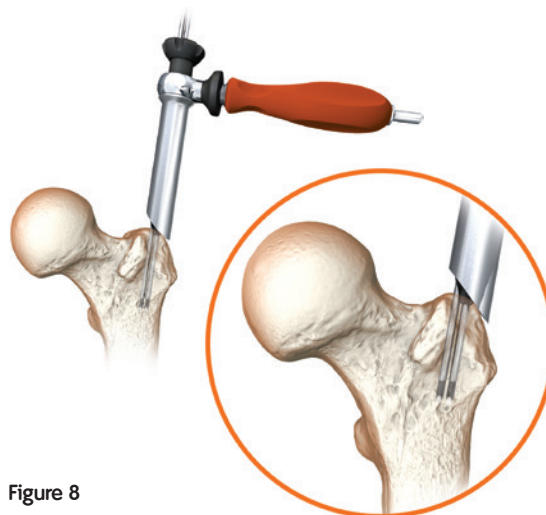

Figure 8
**Note:** If suboptimal guide pin insertion occurs, rotate the Honeycomb within the Entry Tube to the desired location and insert another 3.2mm Brad Point Guide Pin (Figure 8).